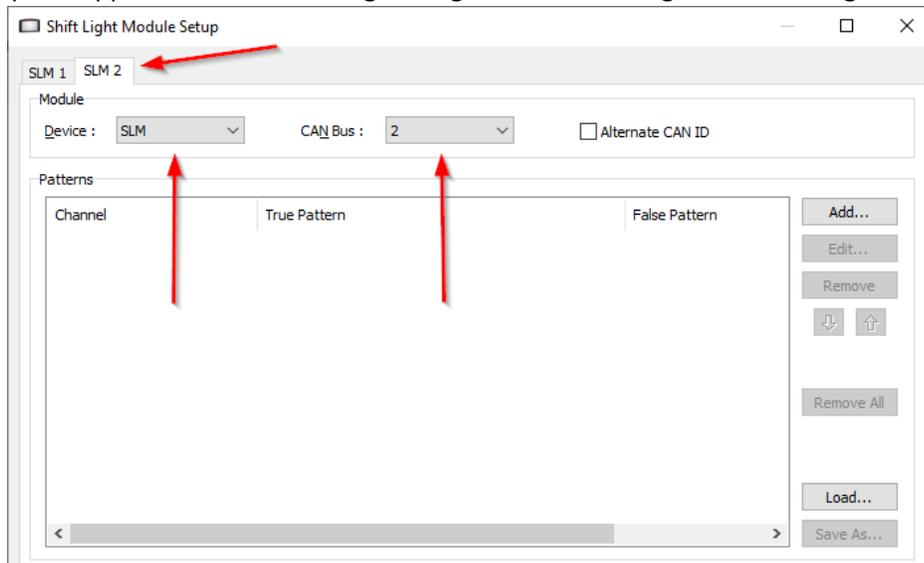

Figure 4.62: Motec Dash Manager – shift light module setup.
3. A pop up will appear and the following settings should be changed to match Figure 4.62.